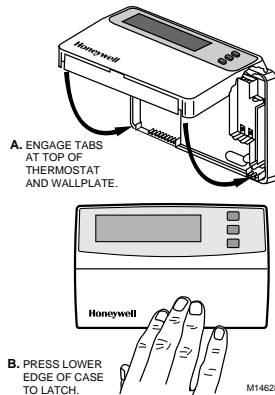

Fig. 8. Mounting thermostat on wallplate.
- Engage tabs at the top of the thermostat and wallplate. See Fig. 8.